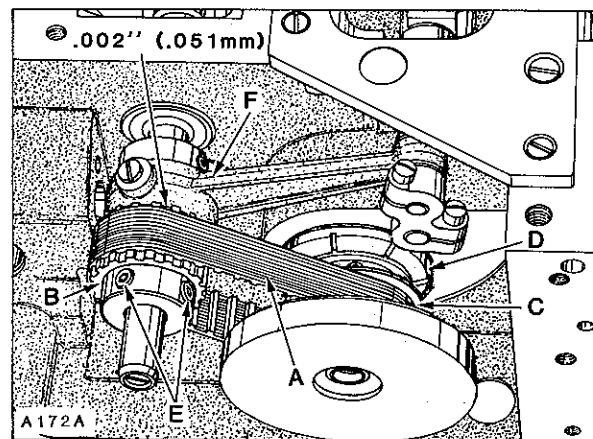
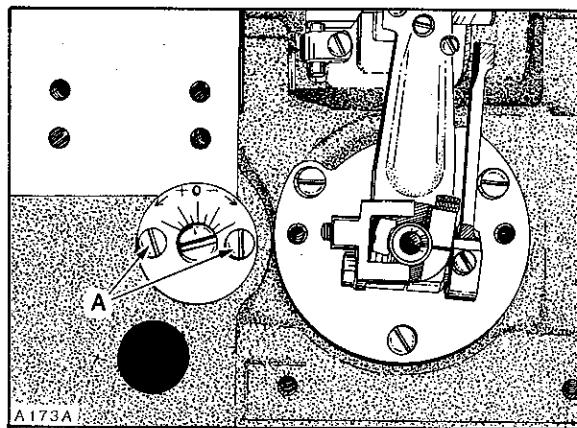

Fig.4
Fig.5
NOTE: End cover has been removed for clarity in Figure 4, but MUST BE IN POSITION WHILE MAKING THE FOLLOWING ADJUSTMENTS.
Looper drive belt, (A, Fig. 4) has proper tension if, when turning handwheel in operating direction to position looper in the center of its (right to left) travel..... there is no noticeable (right to left) play in the looper mechanism. There should be approximately 1/8 inch (3.2mm) deflection in looper drive belt when pressing firmly with thumb, midway between sprockets (B and C). Adjustment can be made by loosening two screws (A, Fig. 5) and turn looper module (D, Fig. 4) counterclockwise to tighten belt or clockwise to loosen, as viewed in Figure 4. Retighten screws (A, Fig. 5).
Rotate handwheel in REVERSE direction until pin in looper holder again makes contact with gauge plate and note the reading on the gauge. A variation of (1) graduation on the scale is permissible. If the reading is above "O", loosen screws (E, Fig. 4) and turn rear looper drive sprocket (B) towards the operator (clockwise as viewed in Figure 4). If the reading is below "O", turn sprocket away from operator (counterclockwise as viewed in Figure 4). Temporarily snug screws.
Rotate handwheel in OPERATING direction until pin in looper holder contacts gauge plate and note the reading on scale. If the reading is above "O", loosen screws (E) and turn sprocket (B) away from operator (counterclockwise as viewed in Figure 4). If the reading is below "O", turn sprocket towards the operator (clockwise as viewed in Figure 4). Temporarily snug screws.
Turn handwheel in reverse direction to position looper point even with the left side of RIGHT needle and check the distance from the eye of needle to the bottom of looper blade. If the distance was greater when handwheel was turned in operating direction, (as viewed in Sketch B) loosen screws (E, Fig. 4) and turn rear looper drive sprocket (B) away from operator (counterclockwise as viewed in Figure 4). If the distance was greater when handwheel was turned in reverse direction, (as viewed in Sketch C) turn sprocket towards the operator (clockwise as viewed in Figure 4). Temporarily snug screws.
Before tightening screws (E, fig. 4) securely, be sure to have .002 inch (.051mm) clearance between sprocket (B) and needle guard drive connecting rod (F).